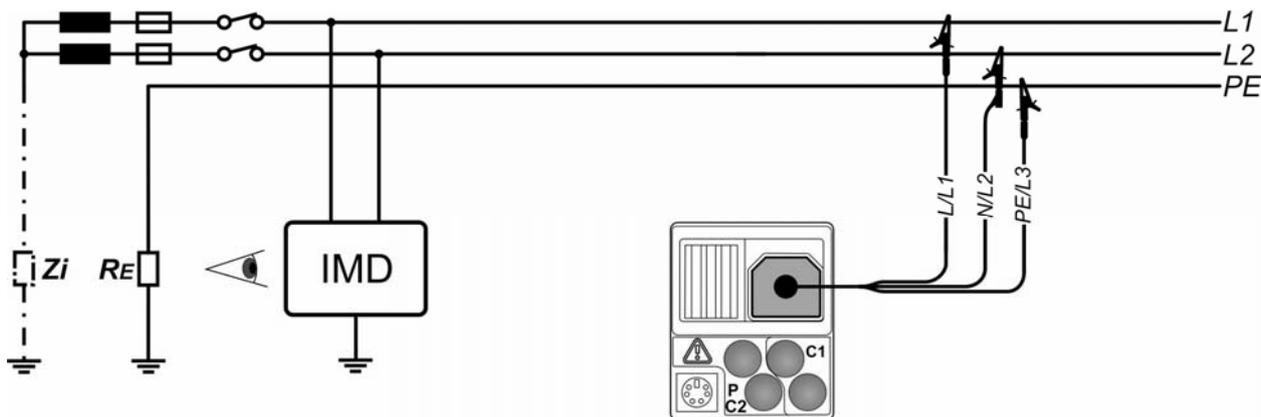

Figure 5.16: Connection with 3-wire test lead
- ❑ **Connect** 3-wire test lead to the instrument and tested item (see Figure 5.16).
- ❑ **Connect** 3-wire test lead to the instrument and tested item (see *Figure 5.16*).